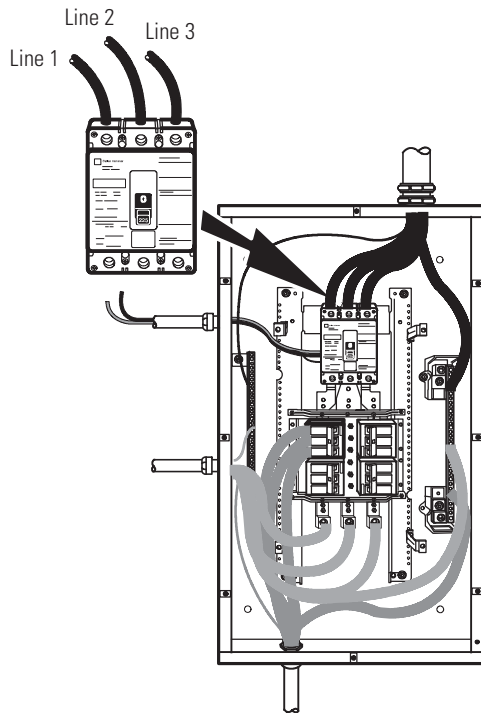

Figure 25. Version 1 Bypass AC Input Wiring
18. Wire the AC input to the bypass breaker (see Figure 25).